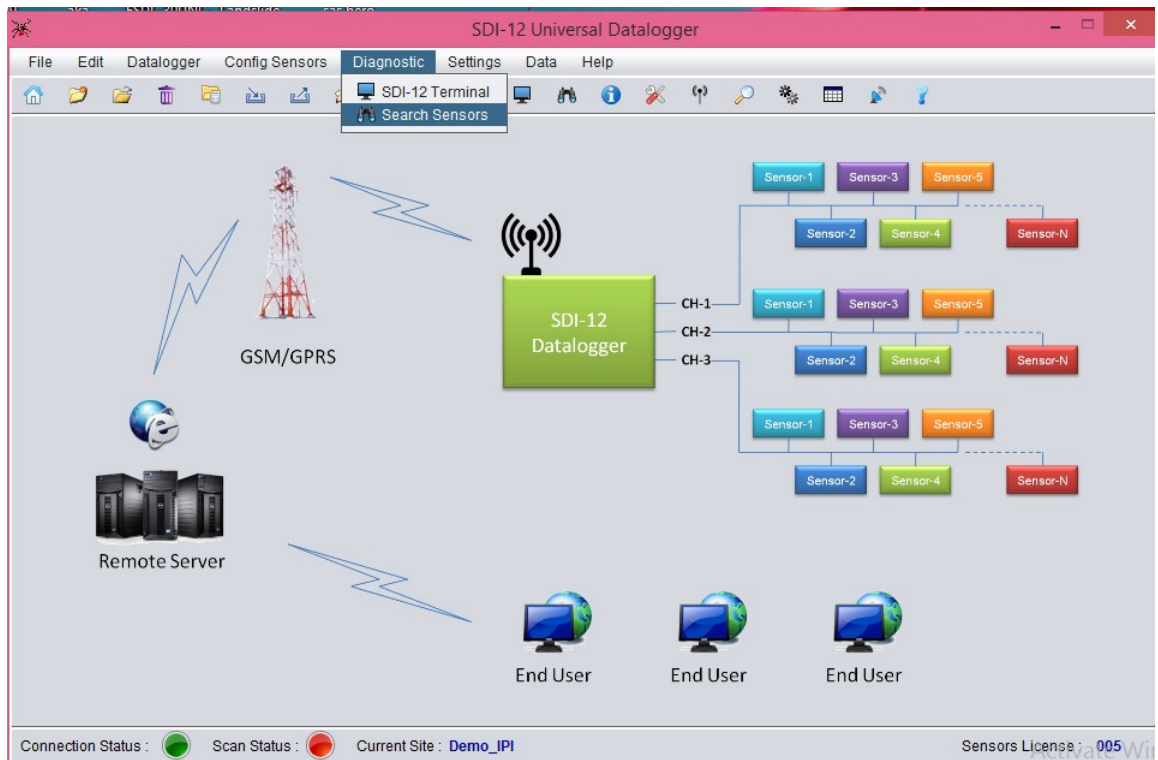

Figure 28 Diagnostic menu of EDSL-30UNI Configuration Manger Software
- 11 Click "Diagnostic" followed by "Search Sensors" to search the sensors connected with the Datalogger as shown in figure 28 below.